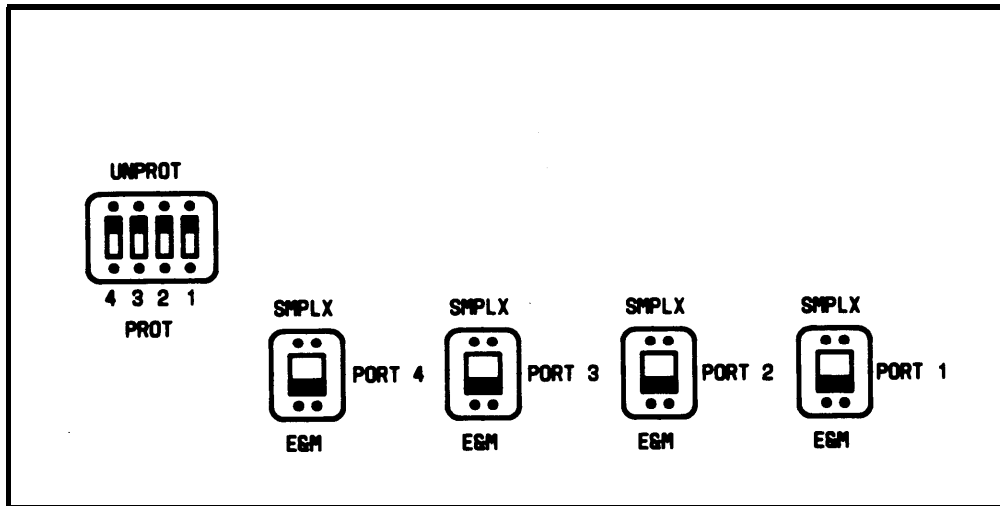

Figure 47. TN760B Tie Trunk Circuit Pack (Component Side)
3. The TN760B circuit pack provides additional signaling capabilities. Use Figure 47 and Table F to choose the preferred signaling format, set switches on the TN760B circuit pack, and administer the port.